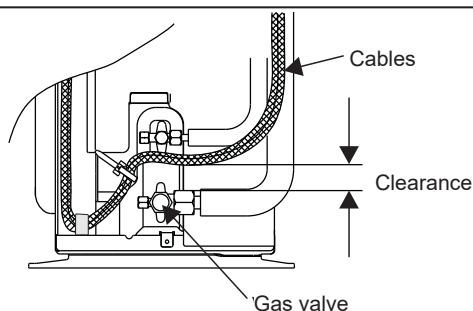

fig. 40 - Finalising connection of single phase outdoor unit
- Use the fixing plate to keep the cables tight against the insulating plate (fig. 40).